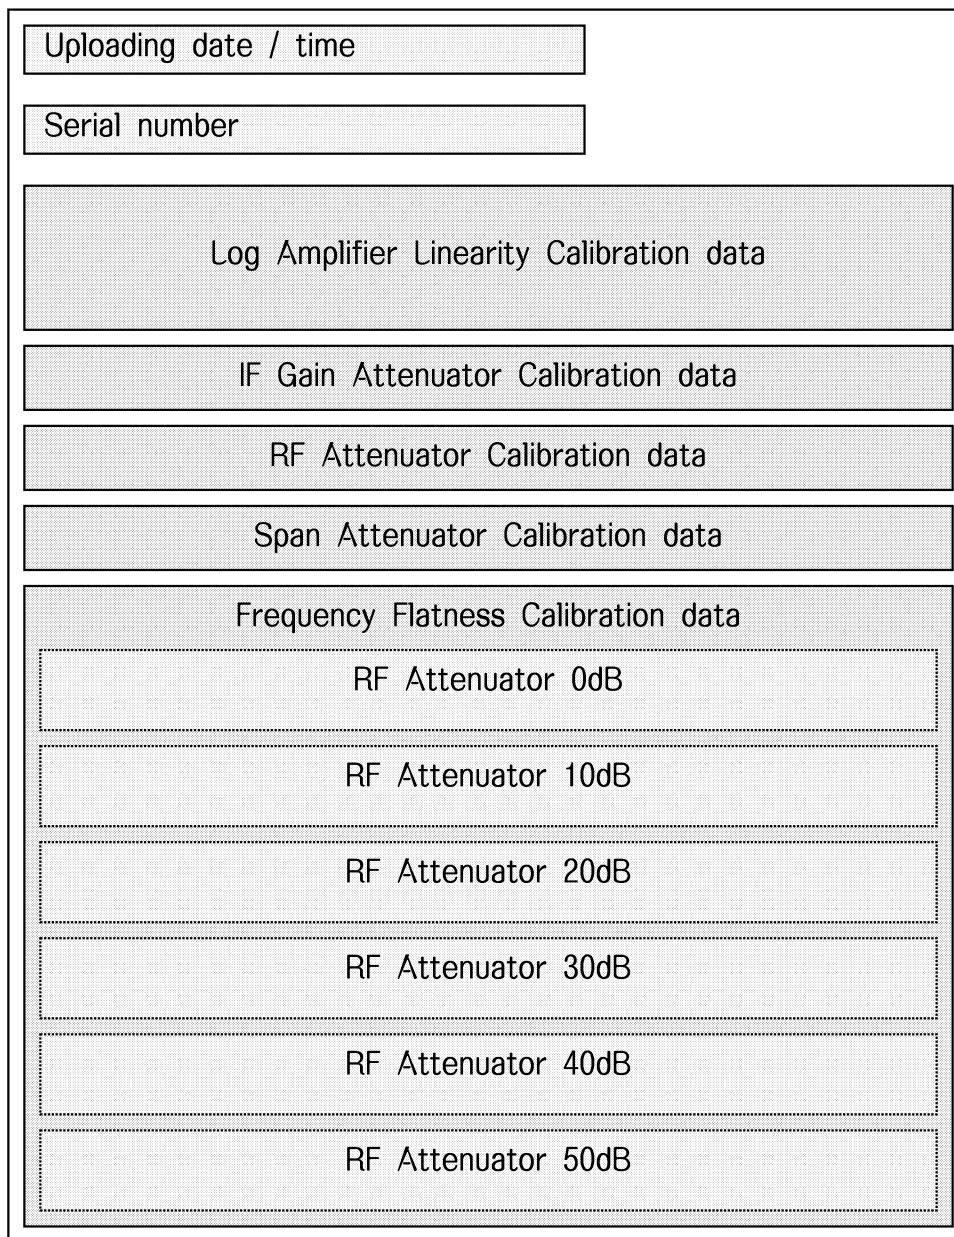

Fig. 3-33 File structure
- Select the Save (9) button in the File Management box of the sub program window to save the calibration data and serial number to file in the PC.
- The structure of the file will be as shown in Fig. 3-33.
- Select the Load (8) button in the File Management box of the sub program window to retrieve a file containing the calibration data and serial number from the PC.